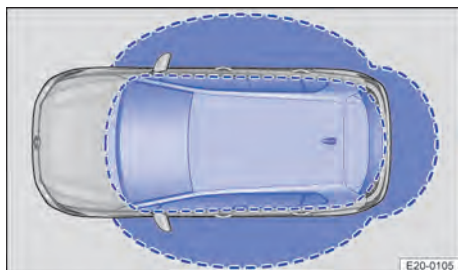

Fig. 55 Keyless Entry: operating ranges.
1. The vehicle will be unlocked if the vehicle key is detected in the operating range → Fig. 55. All direction indicators flash twice.